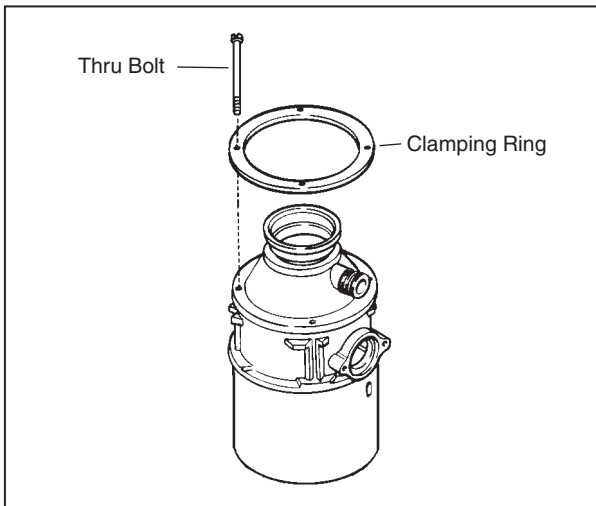

Figure 4.2
5. Remove four thru bolts (thru bolts are secured with nuts or screwed directly into lower end frame). (See Figure 4.2.)